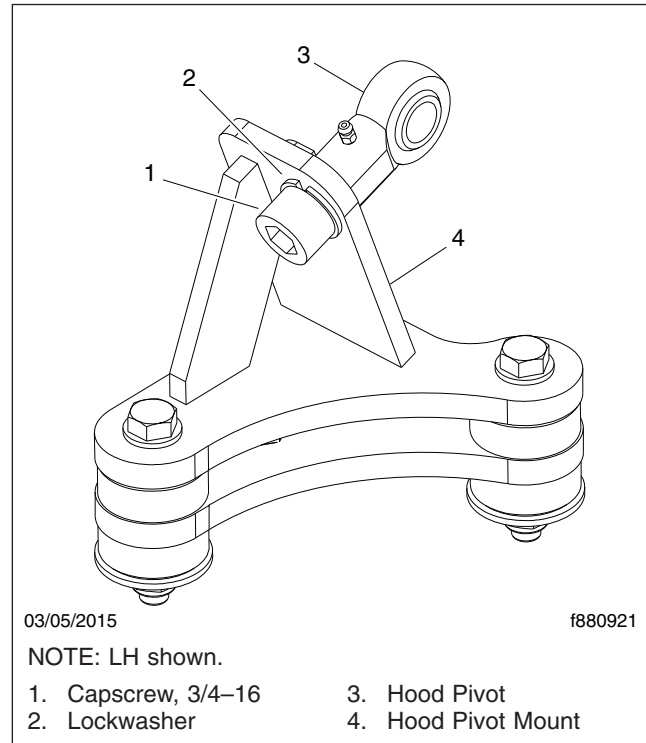

Fig. 4, Hood Pivot Mounting
9. Remove the hood pivot from the pivot mount. Discard the capscrew and washer. See Fig. 4.
10. Using a new capscrew and lockwasher (see Table 1), install the hood pivot on the mount. Tighten the capscrew 170 to 180 lbf-ft (230 to 244 N·m). See Fig. 4.
See Table 1 and Fig. 4 for hood pivot replacement parts.